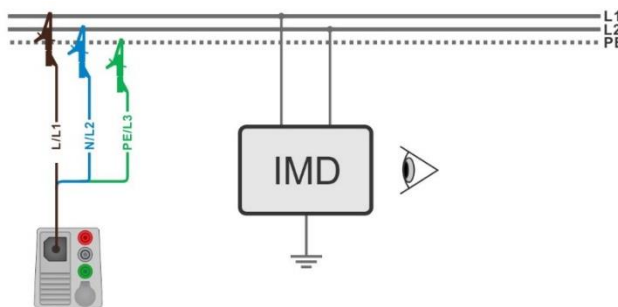

Figure 7.144: AUTO IT measurement
- › Connect 3-wire test lead to the object under test, see **Figure 7.144**.